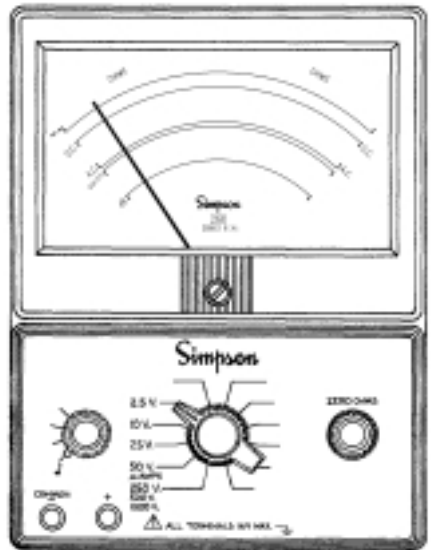

Figure 4-13. Jacks and Switch Positions for Continuity Tests
- a. Set the FUNCTION switch to the “ Ω .” Insert the black test lead into the COMMON (-) and the red test lead into the (+) jacks, (Figure 4-13).